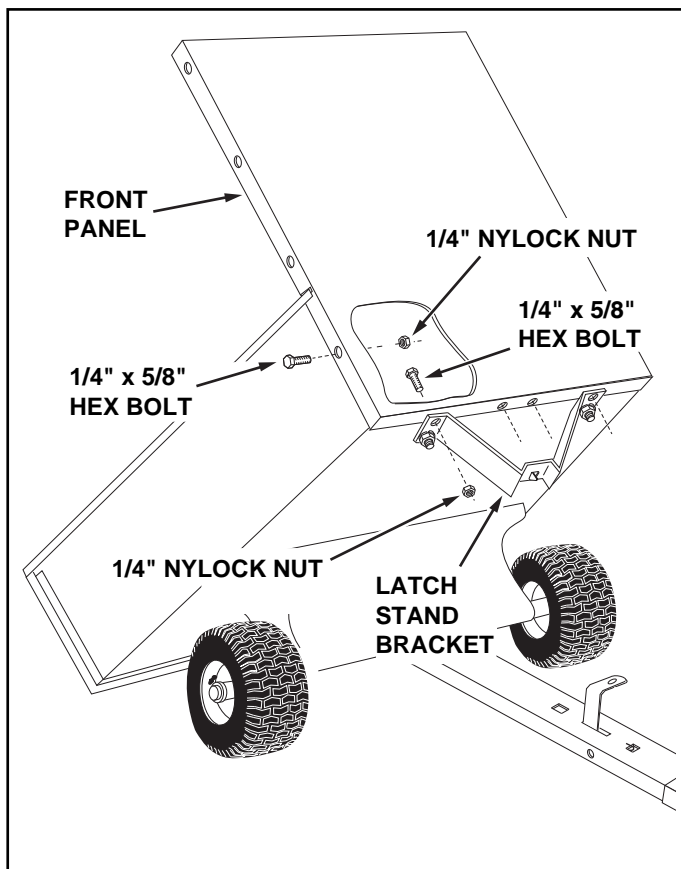

FIGURE 10
17. Release the latch lock lever and tilt the cart bed back. See figure 10.
18. Assemble the front panel to the cart bed, sliding the bottom lip of the panel in between the cart bed and the latch stand bracket. Fasten the panel to the bottom and sides of the cart bed using six $1/4"$ x $5/8"$ hex bolts and $1/4"$ nylock nuts. **Tighten.** See figure 10.